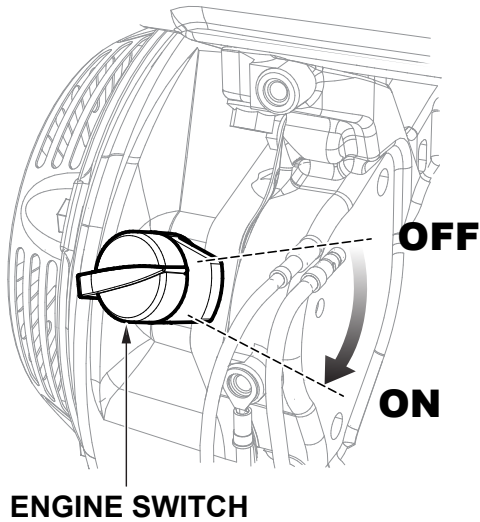

Figure 11. Engine ON/OFF Switch (ON)
- Place the engine ON/OFF switch in the **ON** position (Figure 11).